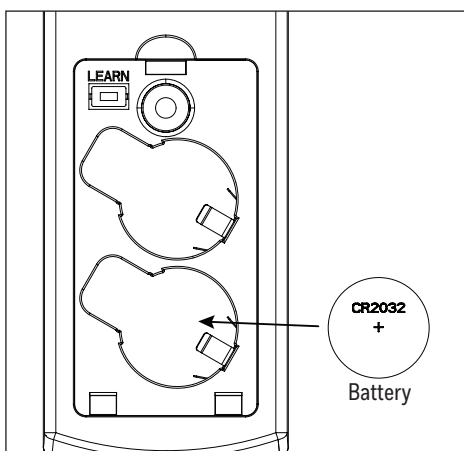

Figure 5.1
1. Remove the battery door from the back of the remote using a flat-head screwdriver (not included). Insert the two CR2032 batteries into the remote; ensure the positive pole of the batteries face up (as pictured) and then replace the battery door. Press the FAN POWER button to ensure the LED indicator illuminates and the fan turns on (Figure 5.1).
Remote does not work.	<ol style="list-style-type: none"> 1. Power surge may have cleared the memory and remote needs to be resynced to the receiver. Syncing instructions: Turn off the power at the breaker box for at least 10 seconds and then turn the power back on. Within 30 seconds, press and hold the "LEARN" button (Figure 5.1) on the back of the remote for 3 seconds. The fan will turn on at high speed and light will blink twice and stay on, signaling a successful synchronization. 2. Insert new CR2032 batteries in battery compartment of the wall control. 3. If there are several remote fans in proximity, turn the power off to those fans and re-sync the fan.